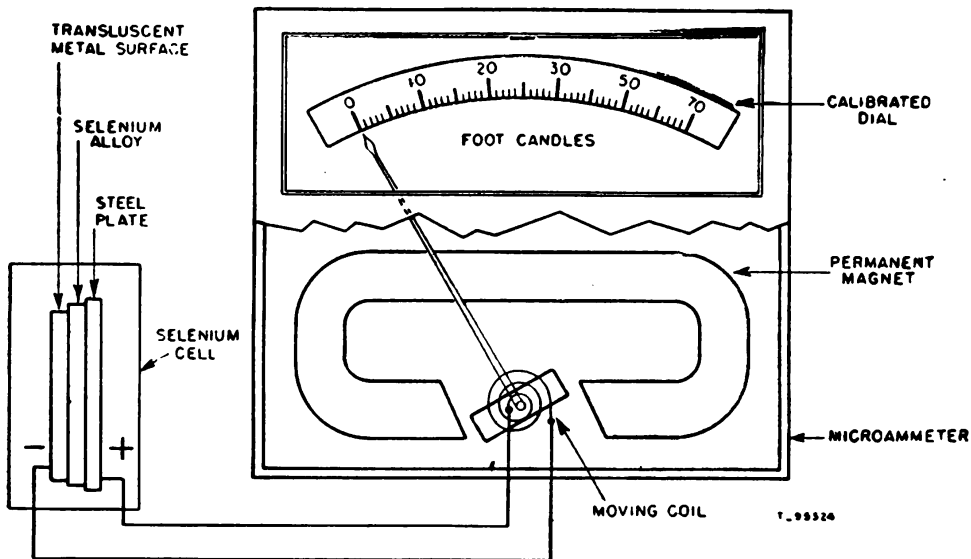

Figure 11. Light meter—wiring diagram.
14. Theory of Equipment—Electrical, Optical, and Mechanical Design (fig. 11)